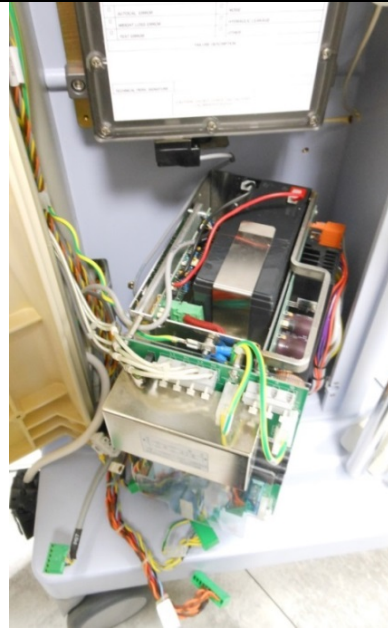

Fig. 8
- Lift it up and rotate PSU to the front (**Fig. 8**).